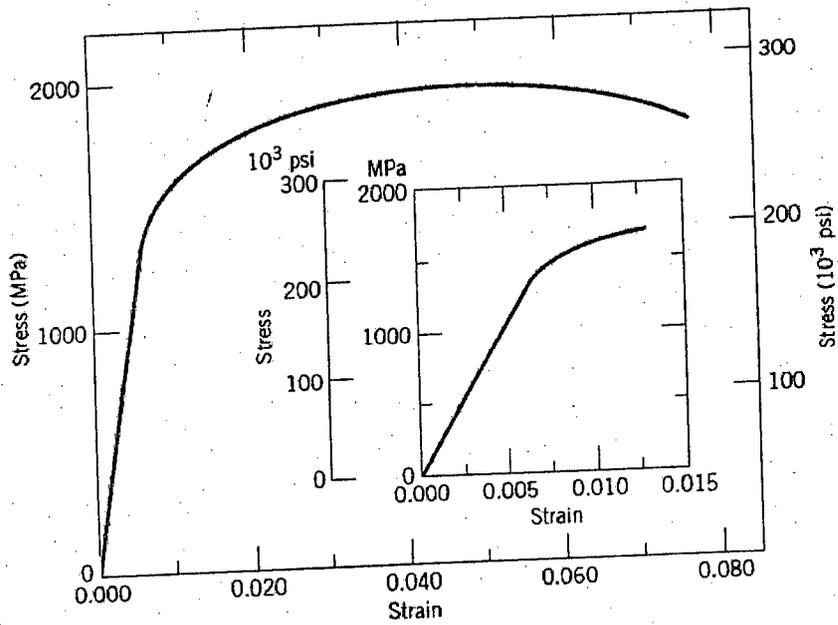
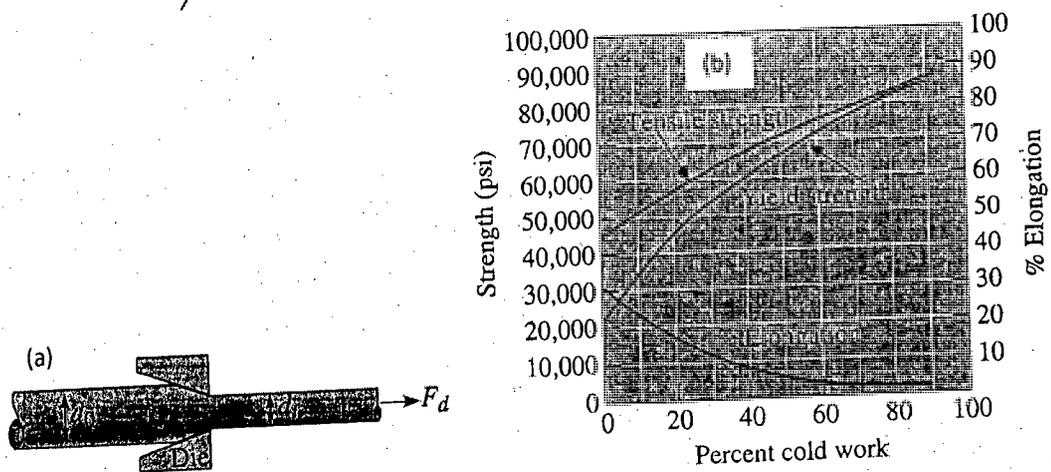

Figure 1: The tensile stress-strain behavior of brass alloy
Figure 2: (a) Wire drawing method for copper wire (b) The effect of cold work on the mechanical properties of copper.
1. (a) What is yield stress? Why do upper and lower yield points appear in stress-strain diagram during tensile testing of steels? (12)
- (b) A paper clip is made of wire 1.20-mm in diameter. If the original material from the wire is made from a rod 15-mm in diameter, calculate the longitudinal and radial engineering and true strains that the wire has undergone. (10)
- (c) A cylindrical specimen of a brass alloy 10.0 mm in diameter and 120.0 mm long is pulled in tension with a force of 11,750 N; the force is subsequently released (13)
- (i) Compute the final length of the specimen at this time. Use Figure 1 for your computation.
- (ii) Using Figure 1 again compute the final specimen length when the load is increased to 23,500 N and then released.
2. (a) "Hardness of a material can be properly measured using proper quantitative hardness testing method". Explain this statement for the case of low carbon steel and cast iron. (12)
- (b) Wire drawing method is used to produce a copper of 0.2 in diameter from a copper wire of 0.4 in diameter. Using the Figure 2 calculate the drawing force required to deform the initial copper wire and the stress acting on the wire after passing through the die. Comment on the final state of the wire. Will it break or not? (13)
- (c) What are the strengthening changes that occur during anyone of these strengthening processes? (10)
3. (a) Determine the minimum allowable thickness for a 3-in.-wide plate made of steel that has a fracture toughness of $9000 \text{ psi}\sqrt{\text{in}}$. The plate must withstand a tensile load of 40,000 lb. The minimum allowable thickness of the part will depend on the minimum flaw size that can be determined by the available testing technique. Assume that three nondestructive testing techniques are available. X-ray radiography can detect flaws larger than 0.02 in.; gamma-ray radiography can detect flaws larger than 0.008 in.; and ultrasonic inspection can detect flaws larger than 0.005 in. Assume that the geometry factor $Y = 1.0$ for all flaws. (15)
- (b) A.K. Company has produced several thousand shafts that have a fatigue strength of 20,000 psi. The shafts are subjected to high bending loads during rotation. The sales engineers report that the first few shafts placed into service failed in a short period of time by fatigue. Suggest and explain three processes by which the remaining shafts can be salvaged by improving their fatigue properties. (10)
- (c) Why and how does creep failure occur? Explain with suitable figures. (10)